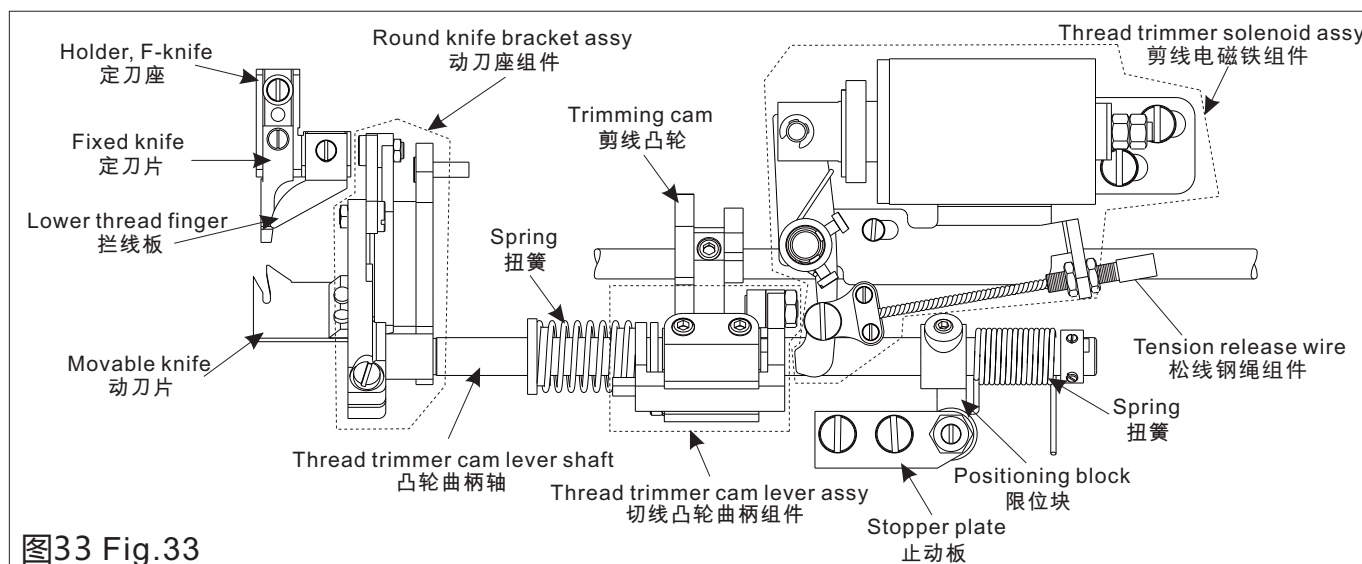

图33 Fig.33
1. 剪线装置(图33) Trimming mechanism (Fig.33)